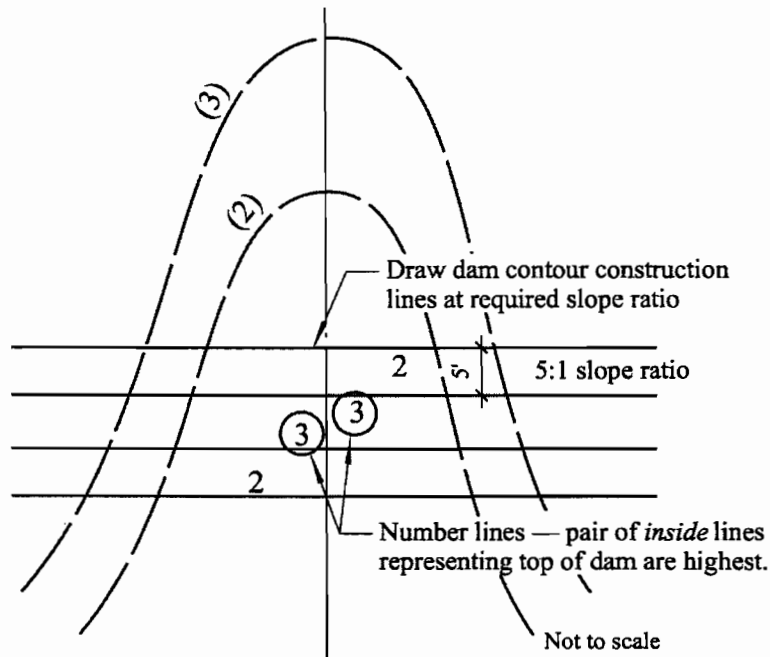

Figure 5-14d, Laying Out Contours
Step 4. Draw contour construction lines as shown in Figure 5-14d. Keep in mind the required slope ratio (5:1 in this example meaning that the lines must be at least 5-feet apart) and that the construction line you drew in Step 2 represents the *inside-top of the dam*. The number of lines needed to achieve a given average pond depth is as follows:
Once the lines have been drawn, number them as shown in Figure 5-14d. Note that the two mid-lines are the highest lines, and that they represent the top of the dam.